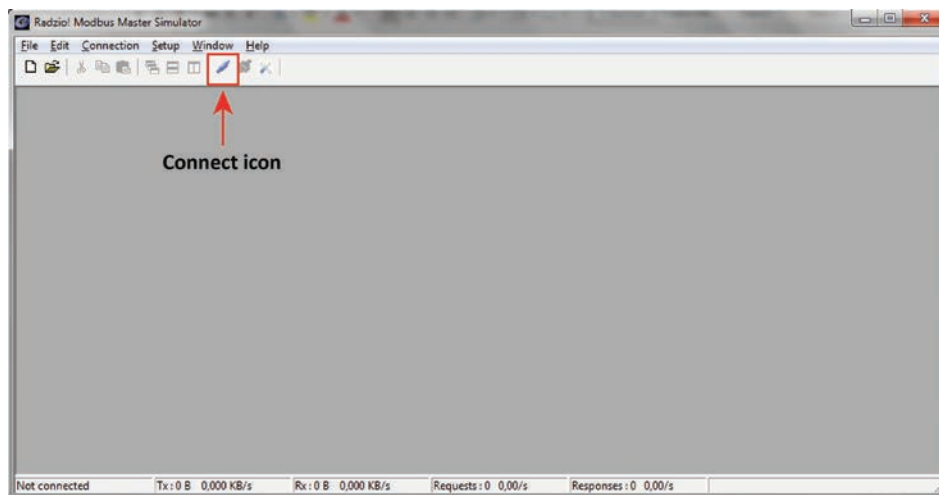

Fig 8: Connect icon
- Click on the **Connect** icon in the Radzio tool bar in order to establish the connections. (Fig 8)